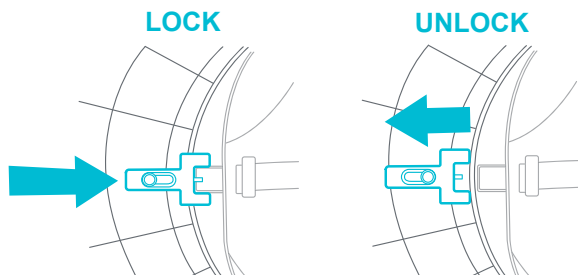

Fig. 9b
**ALWAYS** make sure to lock the seat before using the walker mode. Refer to the corresponding Fig. 9b.
- **LOCKING SWIVEL SEAT TO FRONT POSITION:** To lock the seat in place, locate the lever underneath the tabletop. The seat tab should be aligned with the lever. Push in, to lock (Fig. 9b).